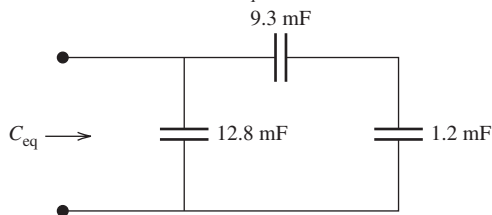

FIGURE P4.26 Circuit for Problem 4.26.
4.26 (B) For the capacitor network in Figure P4.26, what is the equivalent capacitance, C_{eq} ?